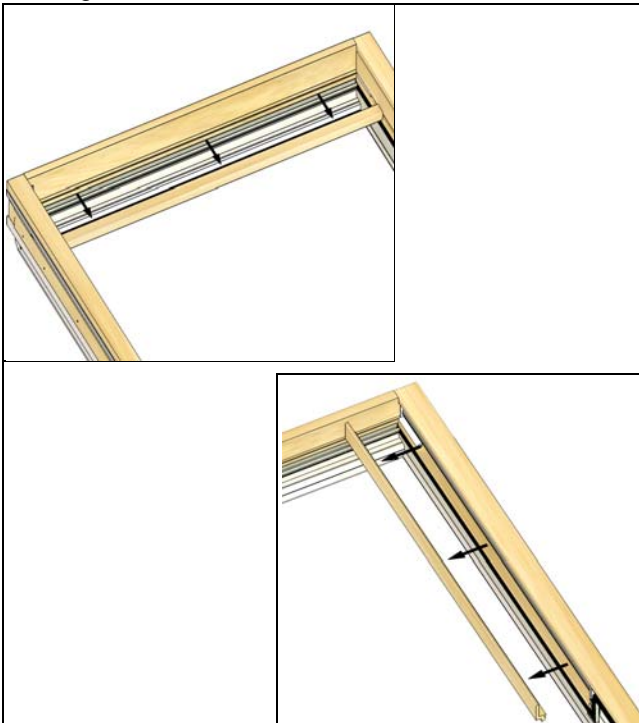

Figure 1
2. Lay frames to be mulled on a flat sturdy surface in the desired mulling configuration, interior side up. Remove head jamb parting stop and then jamb covers. See Figure 1.